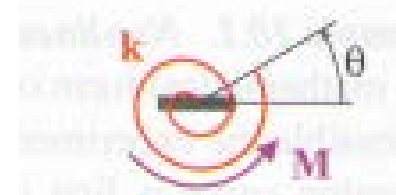

Fig. 10.9. Torsional spring subjected to a moment,  $M$ .
- Angular motion,  $\theta$ , under the action of an externally applied torque,  $M$  (Fig. 10.9)